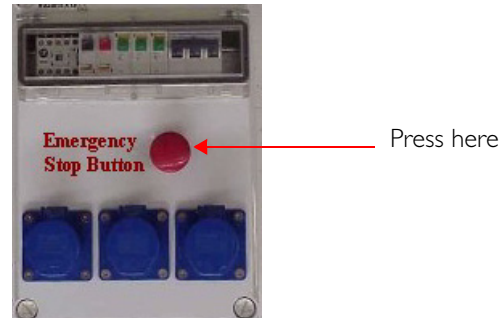

Figure 11. **Wall-mounted Mains PDU**
4. Standing at the wall-mounted mains PDU, press the Emergency Stop button (see Figure 11).